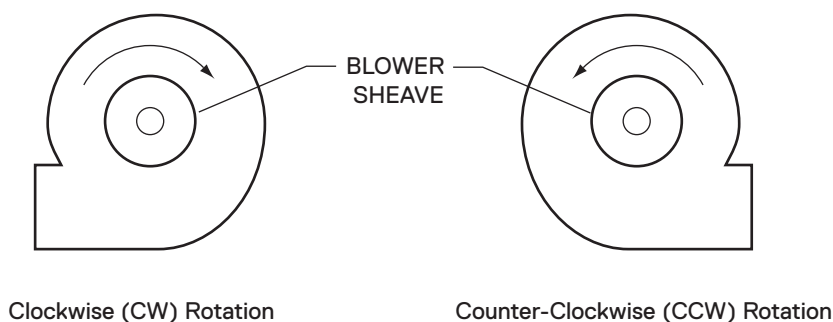

Figure 2
- 14 ☐ ☐ ☐ Apply power to the blower motor momentarily (bump start) to check for proper blower wheel rotation. If the blower is rotating in the wrong direction, reconnect the motor leads per the motor manufacturer's wiring schematic. **Blower rotation is determined by viewing the blower from the motor side of the blower, NOT from the inlet side.** After reconnecting the leads, repeat this step. See Figure 2.